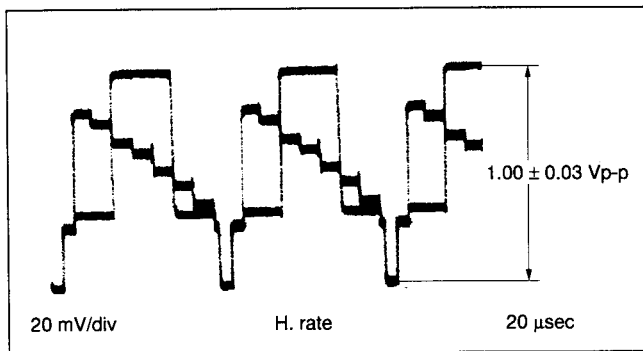

Fig. 3-3-3 EE Y level
- (1) Connect an oscilloscope to Y OUT TERMINAL.
- (2) Set EVR mode by pressing “K” button of the presetting unit more than 2 seconds.
- (3) Set “A : 11” pressing 1 digit key twice of the remote controller.
- (4) Adjust TV PROG “+” or “-” button for 1.00 ± 0.03 Vp-p (See Fig. 3-3-3).
- (5) Set normal VCR mode by pressing “K” button of the pre-setting unit again so adjustment data is memorized.